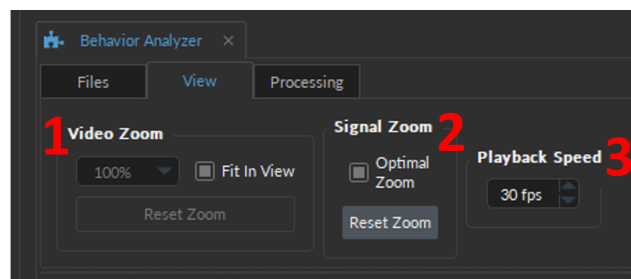

Figure 12.5: Behavior Analyzer, View tab
The **View** tab (Fig. 12.5) sets the visualization parameters for the **Video View** and the **Signal View**. The following parameters are included within the tab:
1. The **Video Zoom** (Fig. 12.5, 1) sets the image magnification factor.
2. The **Signal Zoom** (Fig. 12.5, 2)
3. The **Playback Speed** (Fig. 12.5, 3) sets the frame rate (in FPS) that the video and signal data will be run once the user selects **Play** from the **Video View**.